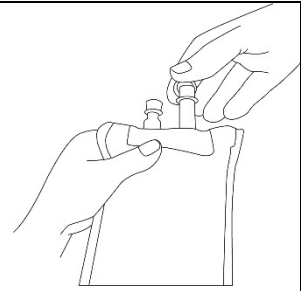

Figure 10: Remove Seal from Port
5. Most IV bags have two ports. Locate the port you will use as instructed by your healthcare provider. Pull the seal off the port. See Figure 10.